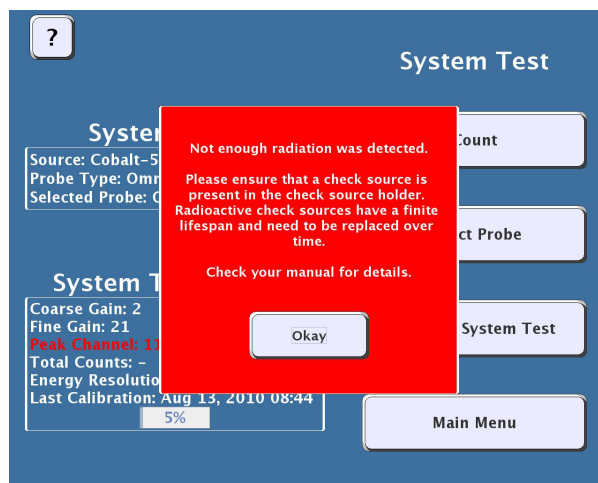

Figure 25 – Not Enough Radiation Detected Error Message
**Not Enough Radiation Detected Error** – [Figure 25] This error will appear if the probe does not detect enough radiation to complete the System Test [Section 2.4-7]. Ensure that the probe is fully inside the check source holder and that the source disc is less than two years old. Reattempt System Test.